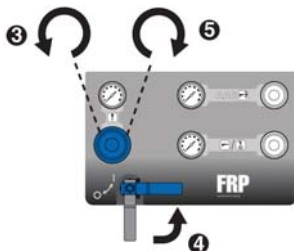

FIG. 18
6. Turn the main air supply pressure regulator fully counter-clockwise to relieve pressure and set to zero pressure. See FIG. 18.
7. Turn the main air supply ball valve to the open position. See FIG. 18.
8. Slowly turn the main air supply pressure regulator clockwise until the pump starts to move and will change-over by itself. Never turn past 20 psi (0.14 MPa, 1.4 bar). See FIG. 18.